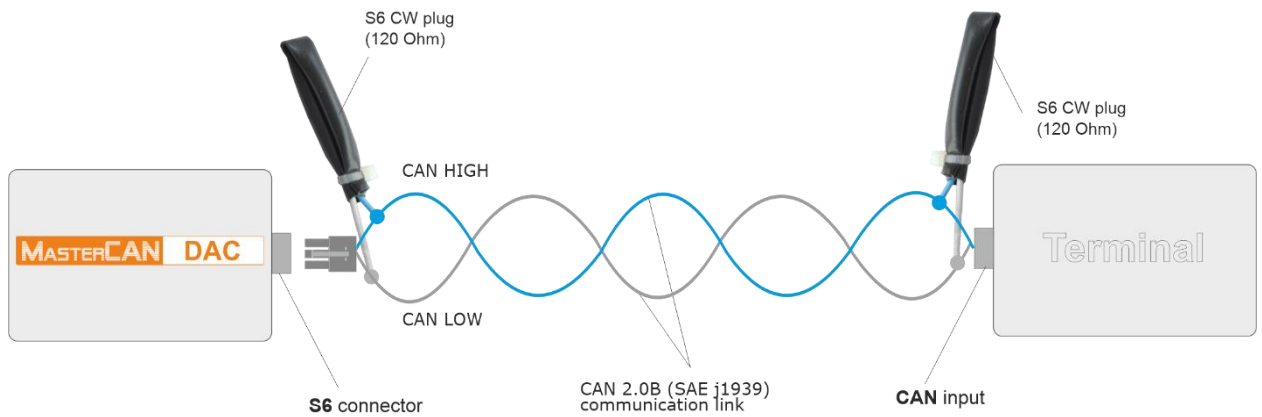

Figure 10 — Connection of converter by means of S6 Technology to the external device that has no inbuilt terminal resistor
1) The presence of 120 Ohms terminal resistors between the wires CAN LOW and CAN HIGH wires at the ends of CAN 2.0B (SAE j1939) communication line **is the obligatory condition** for correct data transfer. In case of converter connection to the to external device that has no inbuilt terminal resistor, connect S6 CW plugs (see delivery set and figure 10).